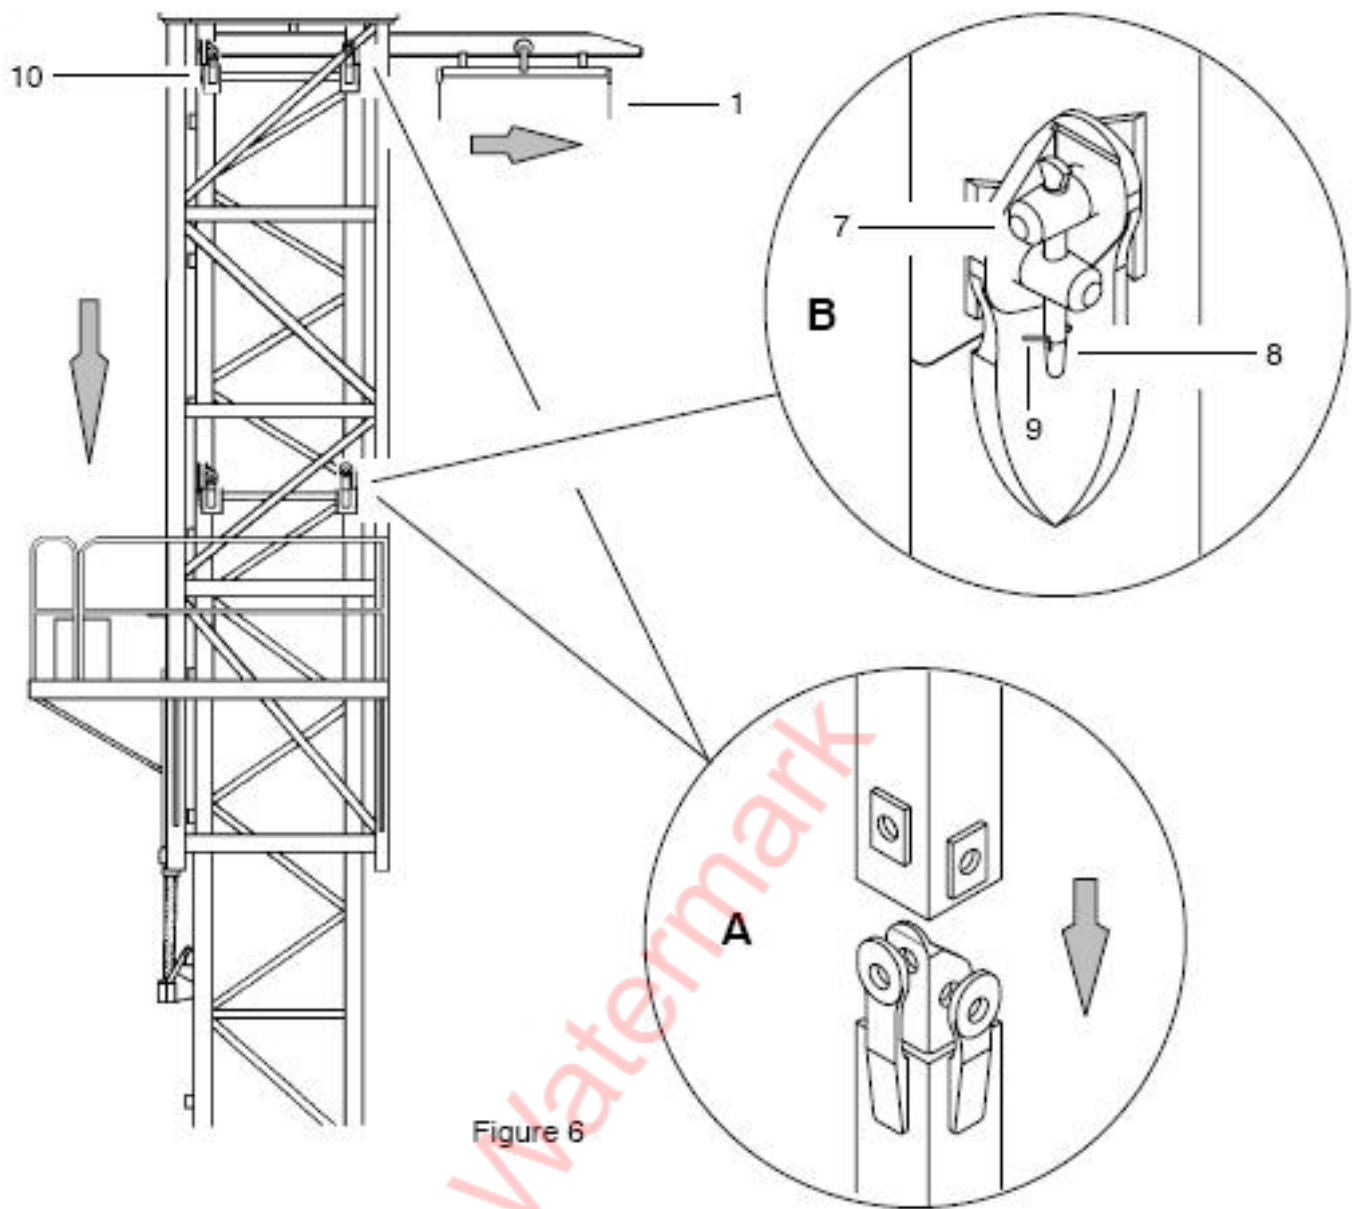

Figure 6
_ Make sure that the mast section engages properly into the fishplates of the basic mast (Detail A – Figure 6); pin-connect by means of 4 x 2 shafts (7), 1 pin (8) and 1 safety pin (9) (Detail B – Figure 6).
_ Continue lowering and make sure that the telescoping mast engages properly into the fishplates of the mast fitted before (Detail A – Figure 6); pin-connect at (10) by means of 4 safety shafts.